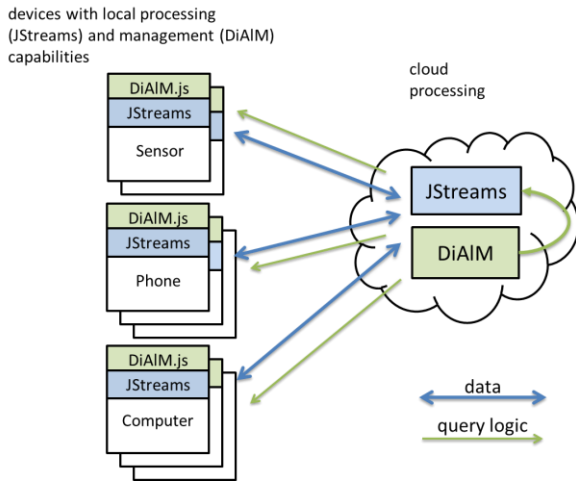

Figure 1: DiAI architecture
Our architecture for distributed analytics (DiAI) aims to boost the connected devices story for cloud-based services and to provide easy-to-use analytics on devices. The architecture consists of two major components: (1) an engine enabling low-latency data stream processing on devices and also in the cloud, called JStreams, and (2) a service managing analytics artifacts (e.g. queries) across all connected nodes, DiAIM (see Figure 1).